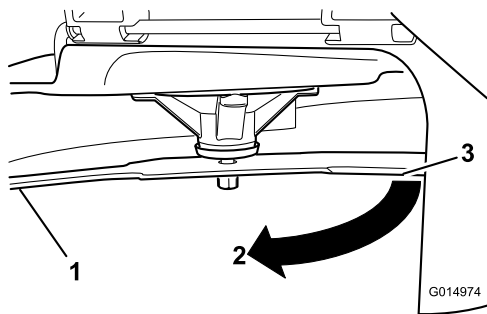

Figure 75
3. Measured distance between blade and the surface (A)
4. Rotate the same blade 180 degrees so that the opposing cutting edge is now in the same position (Figure 75).